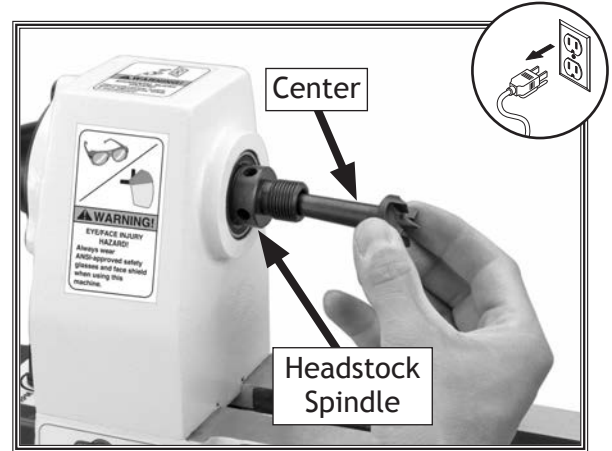

Figure 20. Installing center in headstock spindle.
3. Insert tapered end of center into spindle, and push it in with a quick, firm motion, as shown in **Figure 20**.